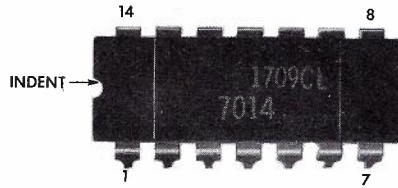

FIG. 46. LEAD ARRANGEMENT: DUAL-IN-LINE PACKAGE (TOP VIEW).
- DUAL-IN-LINE. The method of numbering leads on a Dual-In-Line package is shown in Fig. 46. An indent is moulded into that end of the package corresponding to the first and last leads. The first lead is also often indicated by a mark adjacent to it.